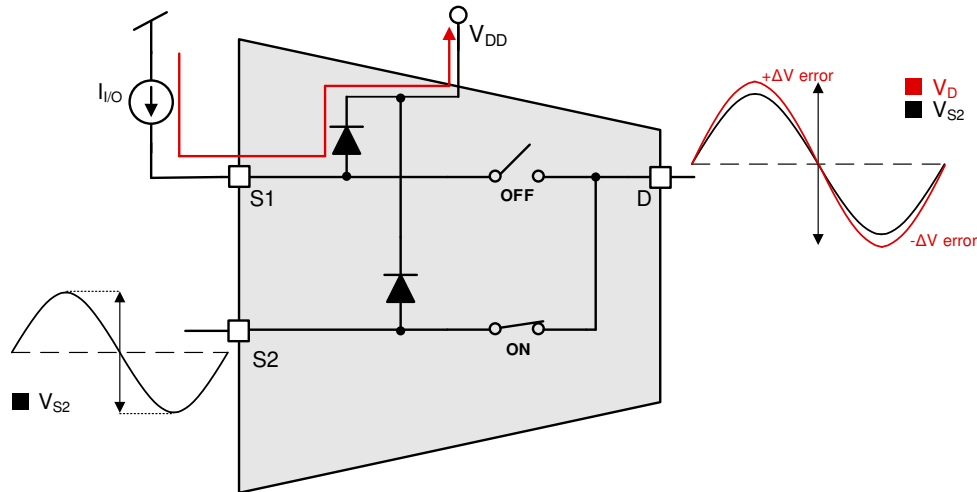

Figure 9-2. Injected Current Impact on  $R_{ON}$
**Change in  $R_{ON}$  due to Current Injection:** because the ON resistance of the enabled FET switch is impacted by the change in the supply rail, when the drain pin voltage exceeds the supply voltage by more than a  $V_T$ , an error in the output signal voltage can be expected. This undesired change in the output can cause issues related to false trigger events and incorrect measurement readings, potentially compromising the accuracy and reliability of the system. As shown in Figure 9-2, S2 is the enabled signal path that is conducting a signal from S2 pin to D pin. Because there is an injected current at the disabled S1 pin, the voltage at that pin increases above the supply voltage and the ESD protection diode is forward biased, shifting the power supply rail. This shift in supply voltage alters the  $R_{ON}$  of the internal FET switches, causing a  $\Delta V$  error on the output at the D pin.